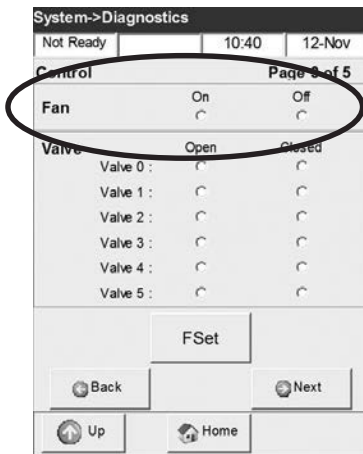

Fig. 7-7 Cooling Fan
- Select **<On>** or **<Off>** next to **<Fan>** to start the test (Fig. 7-7).